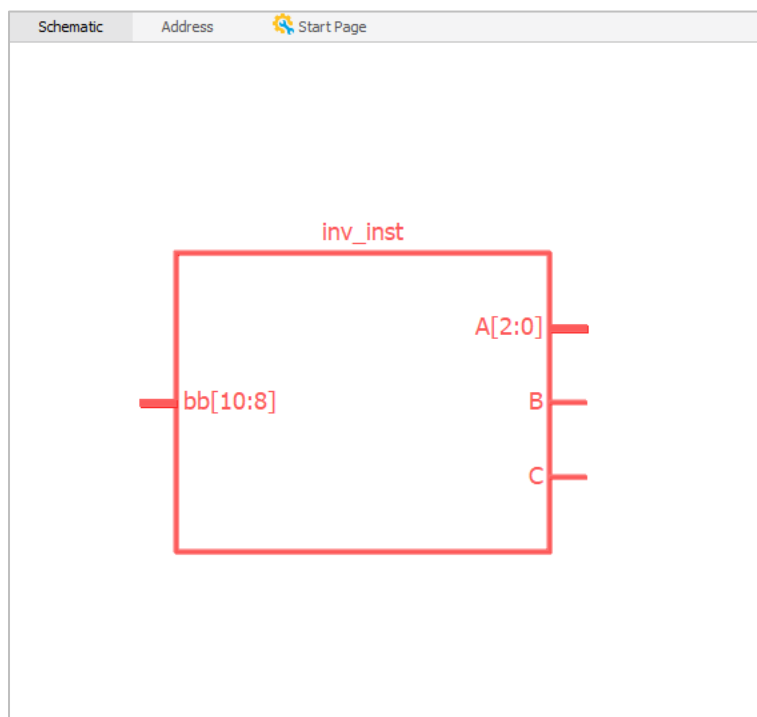

Figure 2.59. Schematic View Shows the Custom RTL Module
- Click **OK**. The schematic block for the RTL module in red appears in the Schematic view (Figure 2.59).